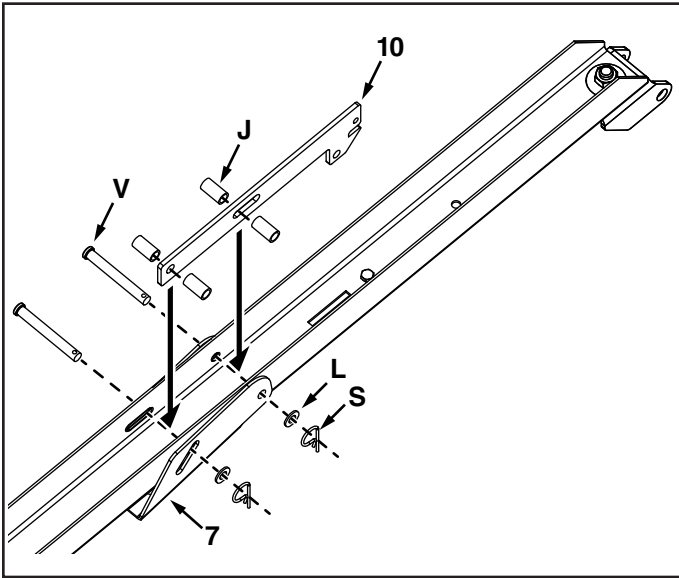

FIGURE 4
STEP 4: (SEE FIGURE 4)
1. Attach the pedal bracket (7) and the latch (10) to the tongue using two 3/8" x 3-1/4" clevis pins (V), four spacers (J), two 3/8" x .875" washers (L), and two 3/32" x 1/8" hair pins (S).